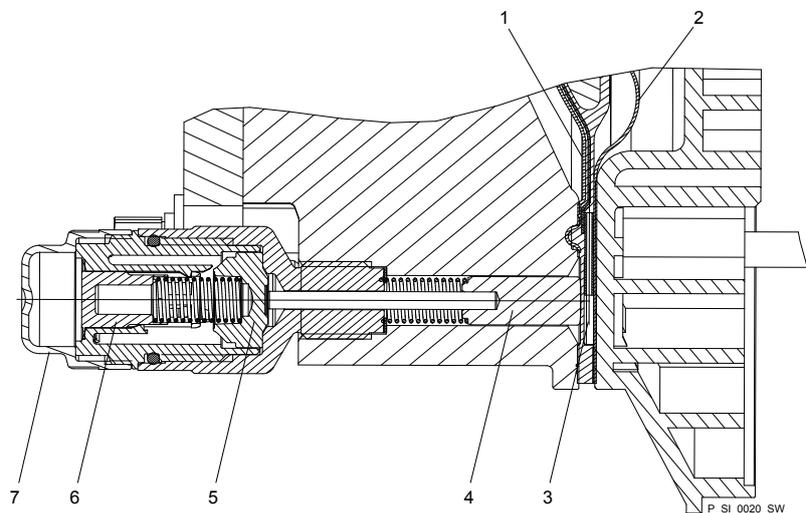

Fig. 38: Section through the Sigma diaphragm rupture warning system ("Visual break indicator" version)
2. ▶ If the piston of the diaphragm rupture sensor - see Fig. 38, item 4 - should have become dirty or damp, clean both it and the hole in which it runs.